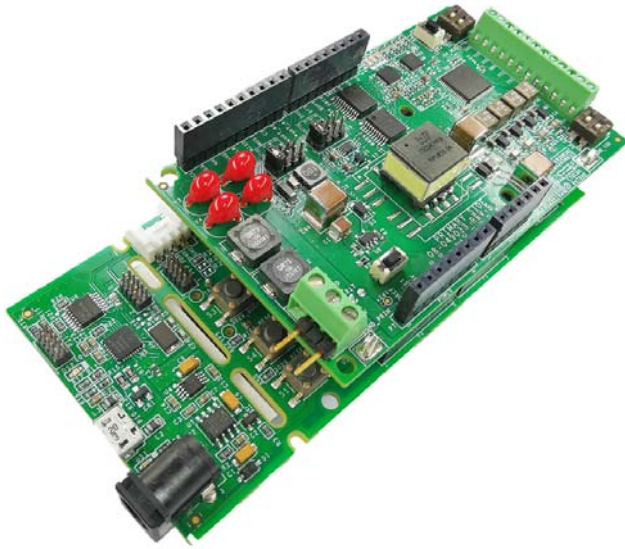

Figure 16. EVAL-CN0418-ARDZ Board Attached to EVAL-ADICUP3029
1. Connect the EVAL-CN0418-ARDZ to the EVAL-ADICUP3029 as shown in Figure 16.